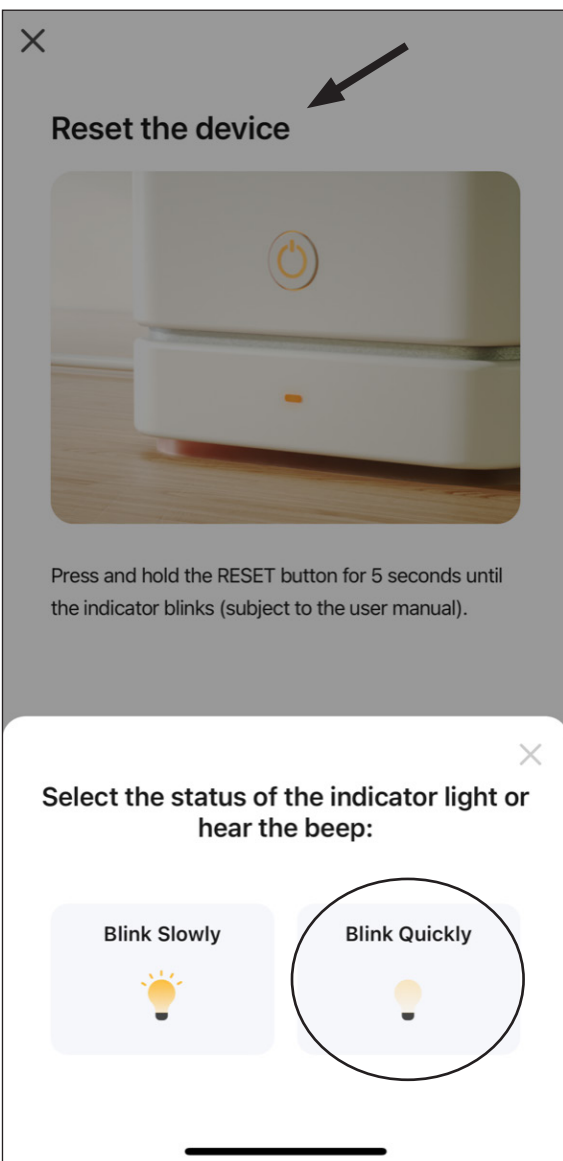
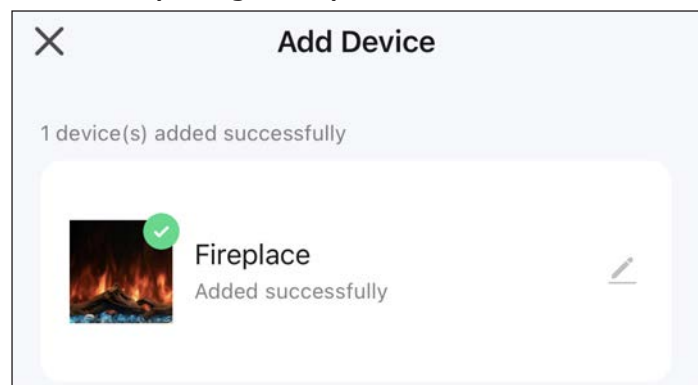

Figure 30: Fireplace Pairing
Figure 31: Fireplace Successfully Paired
7. With the fireplace now in pairing mode select the **Blink Quickly** option on the **Reset the Device** screen in the app (see figure 30). The app will begin pairing to the fireplace on a timing screen and automatically finish once pairing is successful (see figure 31).